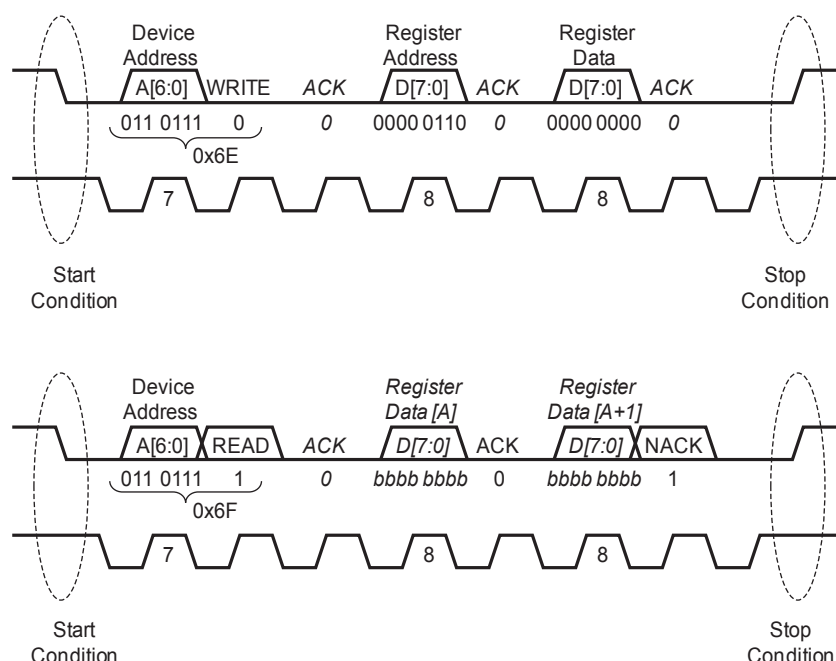

Figure 16: I²C Read Command
Figure 16 shows an I²C read command sent by the master to the slave device. Read transactions begin in much the same manner as the write transactions in that the slave address must be sent with a write(0) command bit.